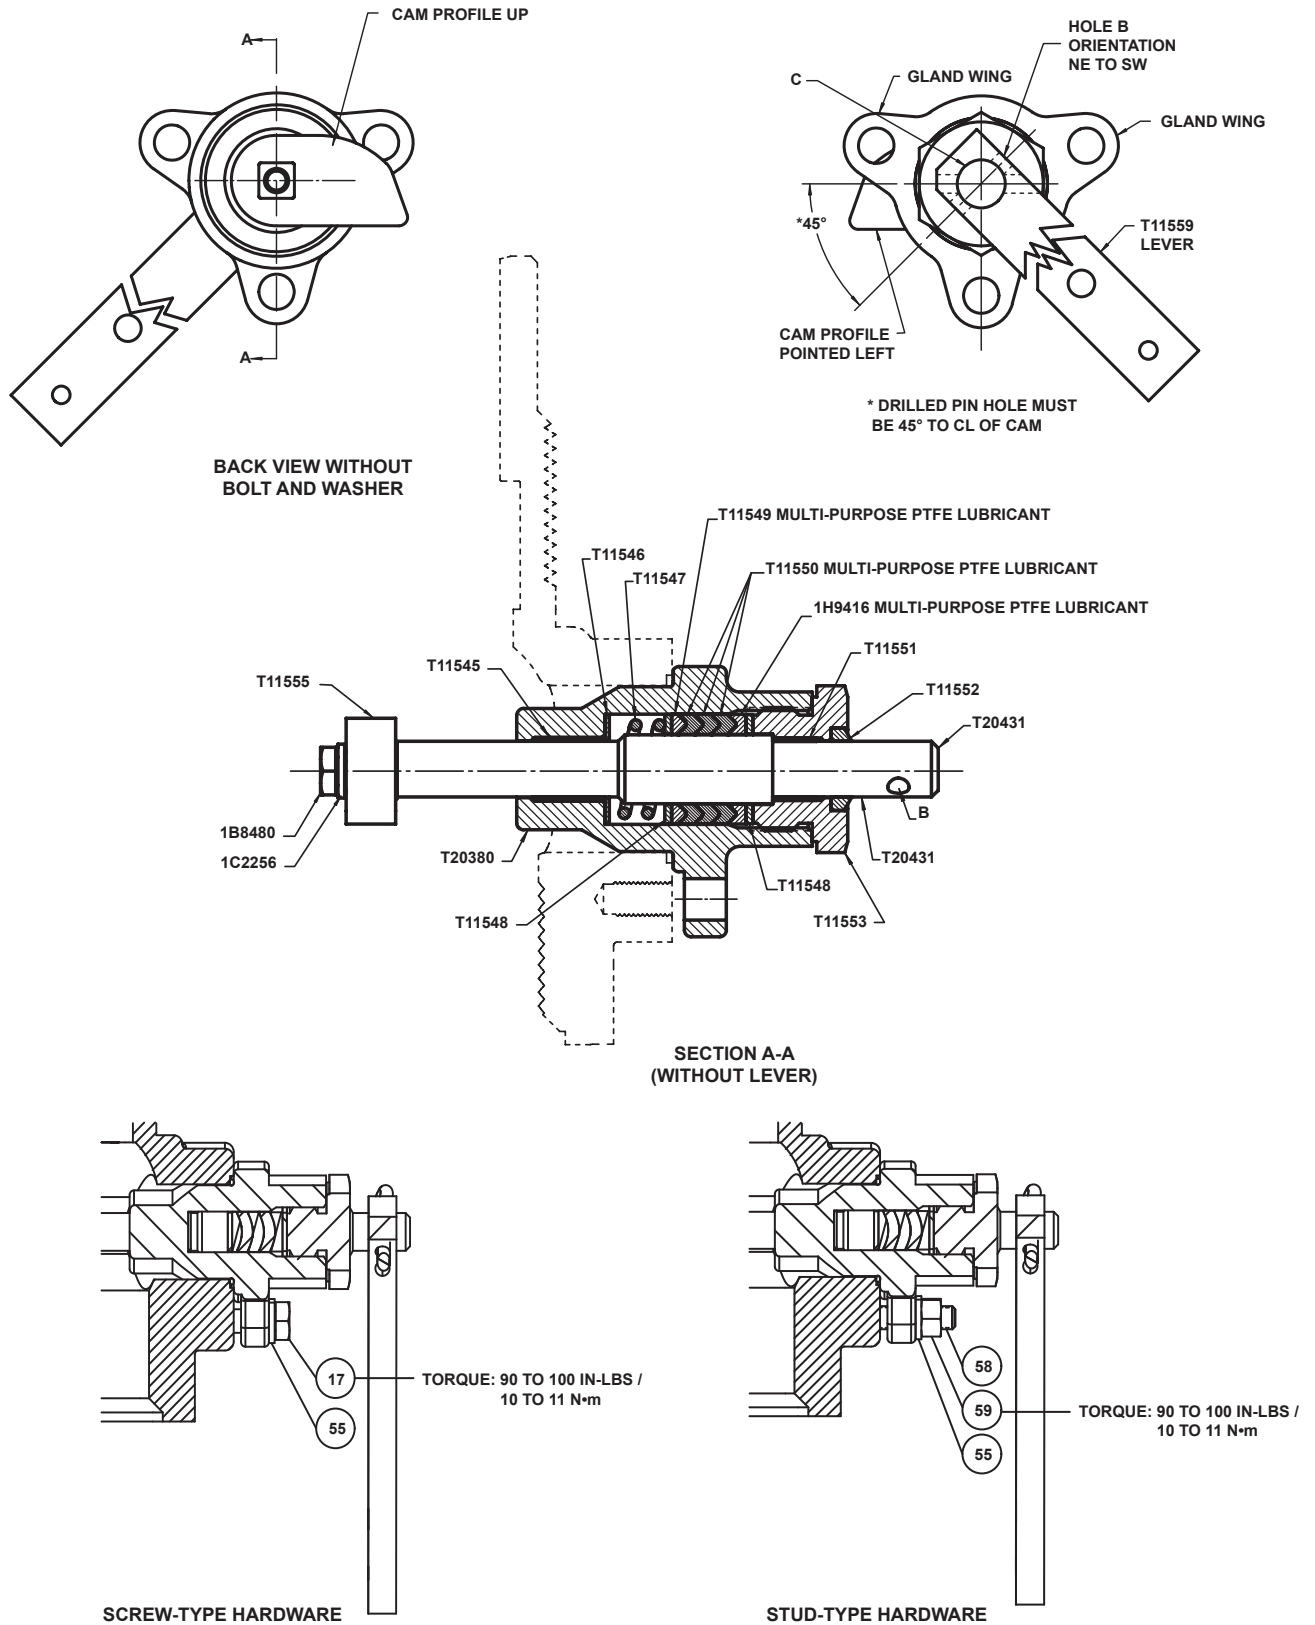

Figure 6. Stub Shaft Orientation
4. Unscrew the cap screw (key 15R) from the stub shaft (key 15J) and remove the operating lever by taking out the cotter pin (key 19).
5. Unscrew the retaining nut (key 15M) from the bonnet. Pushing on the stub shaft (key 15J) will expose the bonnet parts including the packing.
7. Reassemble in reverse order. Replace cap screw (key 15R) using 30 to 35 in-lbs / 3.4 to 4.0 N•m torque.
8. Before replacing the gland assembly, replace the O-ring (key 16) with the proper material matching the main seals. The standard Types C471 and C477 material is Nitrile (NBR).
9. Orient Cam and stub shaft (See Figure 6)
Refer to Figure 6. Looking at the end of the stub shaft (C) that the lever or actuator attaches to:
- b. The hole (B) through the stub shaft that the lever/ actuator attaches to should be oriented in a NE to SW position with N being at the top.
- c. The 2 gland wings should be at the top as shown in Figure 6.
- d. The lever should be oriented as shown and the cotter pin run through hole (B).
- a. Reinstall the washers (key 55) and nuts (key 59) and torque to 90 to 100 in-lbs / 10 to 11 N•m. Reinstall actuator or latch if applicable.
- c. If installing new studs, install the long studs (key 57) in the top-most hole locations and the short stud (key 58) in the bottom-most location. Secure the gland to the body with the first set of washers (key 12) and nuts. Reinstall actuator or latch if applicable or cover two long studs with protective cap (key 60) if available.